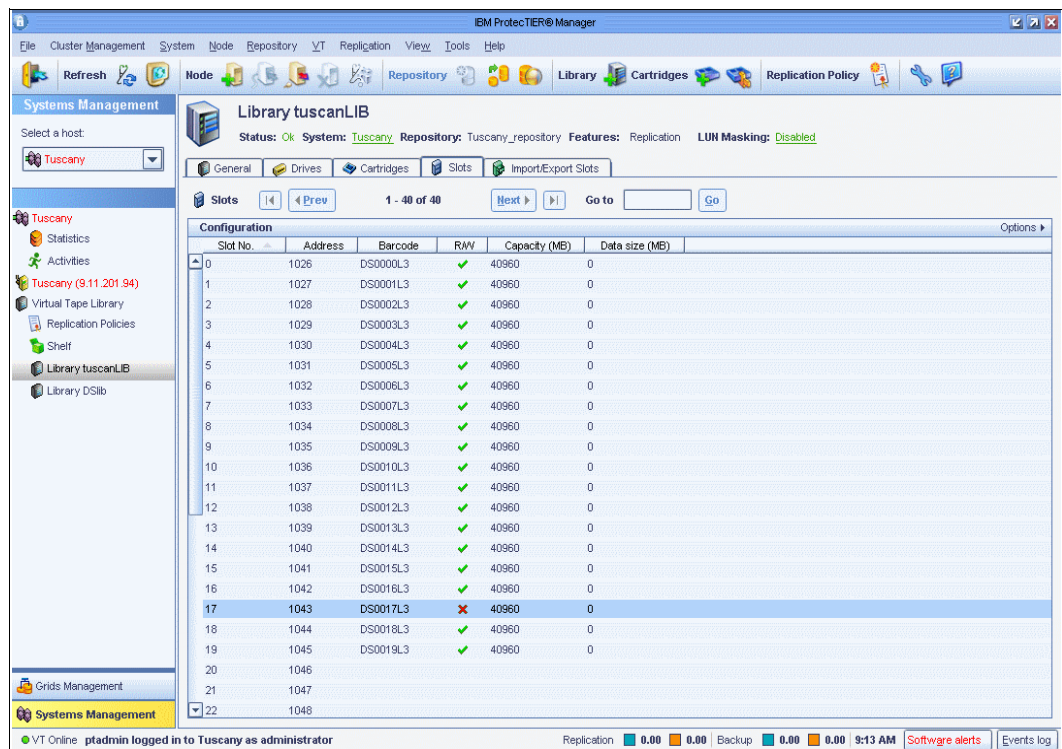

Figure 10-48 Read-only cartridge has a cross mark
- Click **Yes**. The cartridge switches to read-only mode (Figure 10-48).